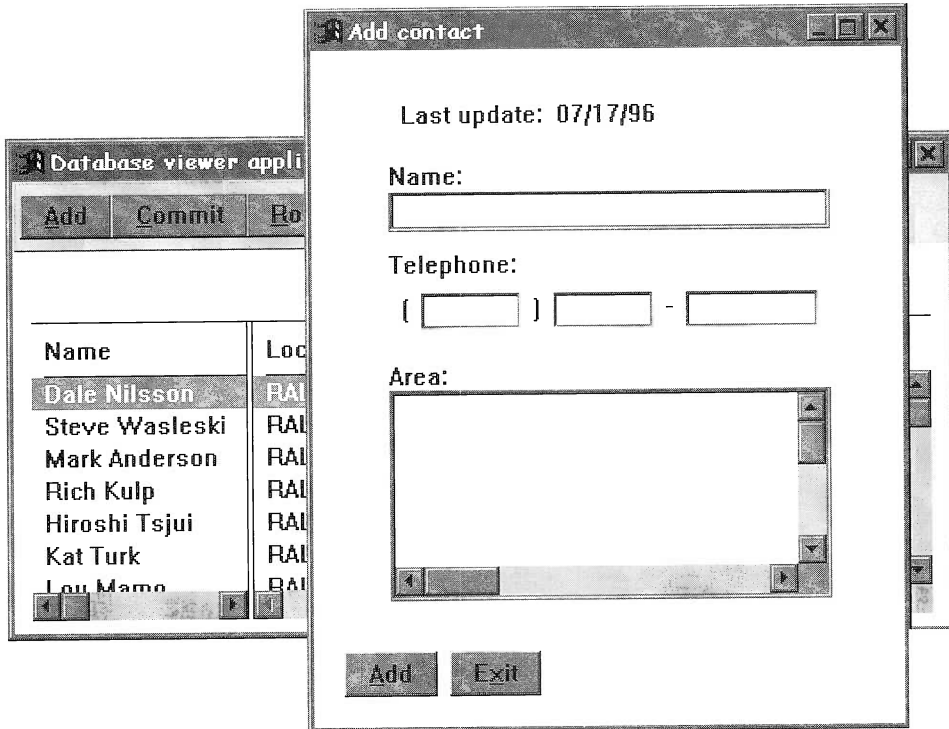

Figure 215: Add contact secondary window
- ☐ Run `DBAddRecord`, press the Add button and the **Add contact** window should display and look like Figure 215.